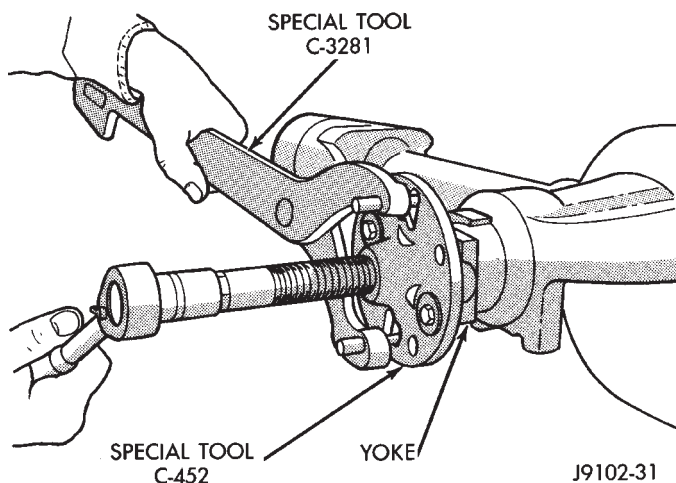

Fig. 5 Pinion Yoke Removal
(1) Raise and support the vehicle.
(2) Remove wheel and tire assemblies.
(3) Mark the propeller shaft yoke and pinion yoke for installation alignment reference.
(4) Remove the propeller shaft from the yoke.
(5) Remove the pinion yoke nut and washer. Use Remover C-452 and Wrench C-3281 to remove the pinion yoke (Fig. 5).
(6) Mark the positions of the yoke and pinion gear for installation alignment reference.